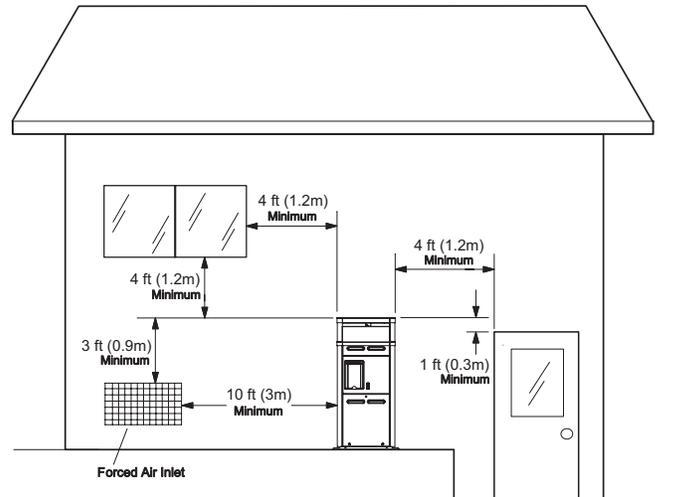

Fig. 5: Outdoor Installation Clearances
- For U.S. installations, the point from where the flue products exit the heater must be a minimum of 4 ft (1.2 m) below, 4 ft (1.2 m) horizontally from, or 1 ft (0.3 m) above any door, window or gravity inlet into any building. The top surface of the heater shall be at least 3 ft (0.9 m) above any forced air inlet, or intake ducts located within 10 ft (3 m) horizontally. See Fig. 5.